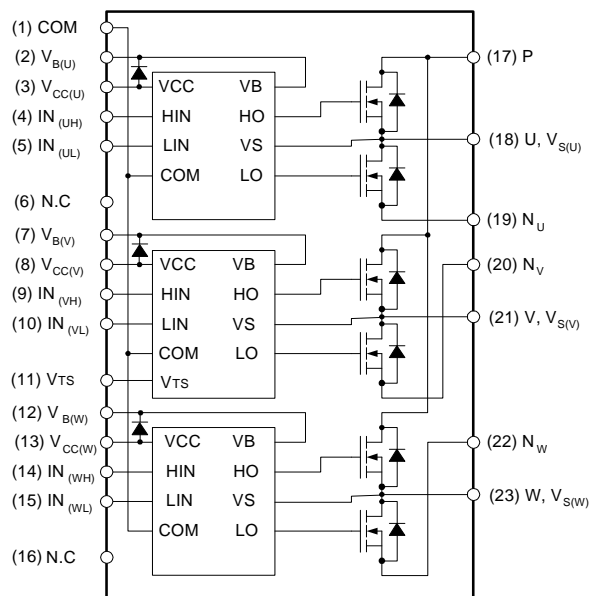

Figure 1. Pin Configuration and Internal Block Diagram (Bottom View)
1. About pin position, refer to Figure 1.